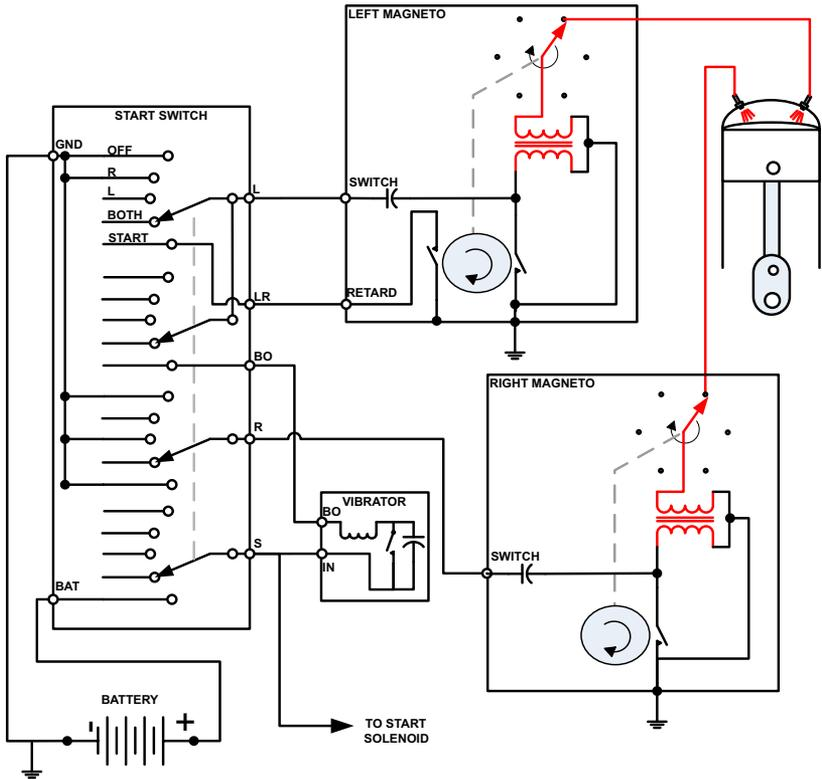

Figure 5. Normal Operation
5. Release the ignition switch to the "BOTH" position (Figure 5) and the circuit changes to normal operation.